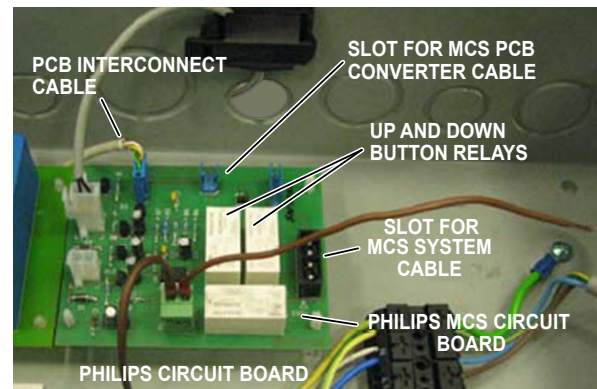
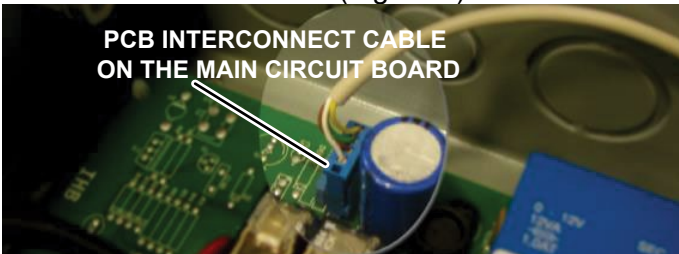
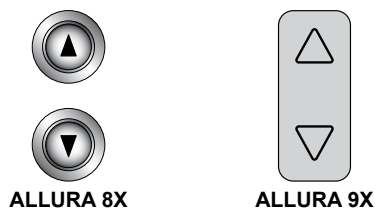
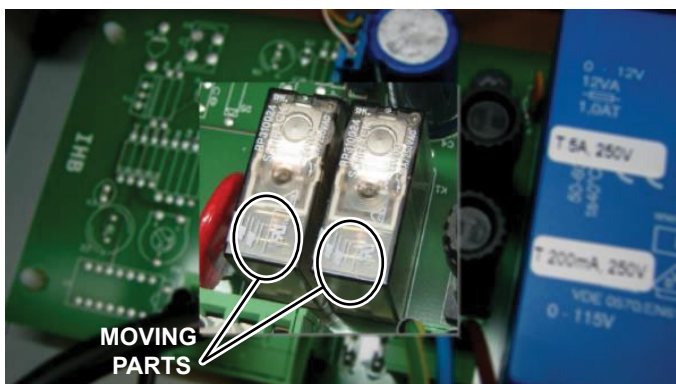

Figure 1. Pump circuit board overview
Figure 3. Interconnect cable on the main circuit board
Figure 5. Up and Down Buttons
Figure 11. Transparent relays
- Make sure one end of the MCS PCB Converter Cable is plugged into the Philips MCS Circuit Board (Figure 1) and the other end is connected to the hydraulic arm Limit Switch Cable (Figure 2).
- Check that one end of the PCB Interconnect Cable is connected to the Philips MCS Circuit Board (Figure 1) and the other end connected to the main circuit board (Figure 3).
- Check that the MCS System Cable is plugged into the Philips MCS Circuit Board (Figure 1), wire colors are correct (black, white, green, red) and the other end is plugged into the Philips MCS bracket.
Press the up and down buttons (Figure 5) on the Philips large screen frame. The relays on the Philips MCS Circuit Board (Figure 1) should make a clicking sound.
Press the up and down buttons (Figure 5) on the Philips MCS bracket, then check if the moving parts (Figure 11) inside the transparent relays on the main circuit board are activated.